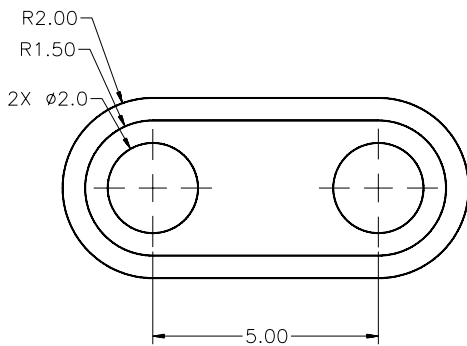
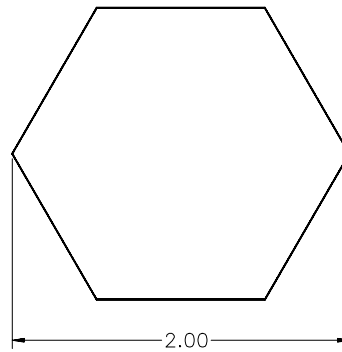

Figure 12-12 Model for Example 1
Figure 12-13 Shape for the floating viewport
In this example, you will draw the object shown in Figure 12-12 and then create a floating viewport of the shape shown in Figure 12-13 to display the object in the layouts. The dimensions of the viewport are in the paper space. Do not dimension the object.
1. Start a new drawing and then draw the object shown in Figure 12-12.